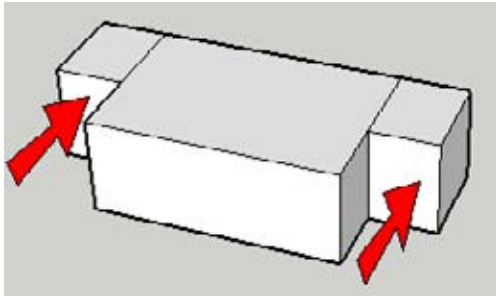

Figure 2-83
3. Push in the two side boxes by the same distance (Figure 2-83).